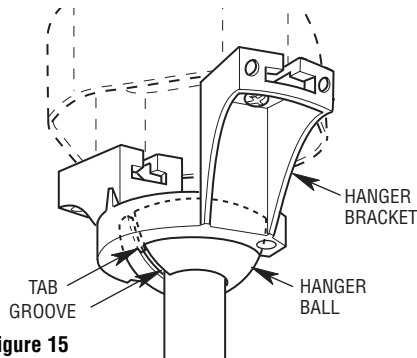

Figure 15
- 1. Carefully lift the fan assembly and seat the hanger ball in the hanger bracket (Figure 15). The tab on the hanger bracket must seat in the groove in the hanger ball.